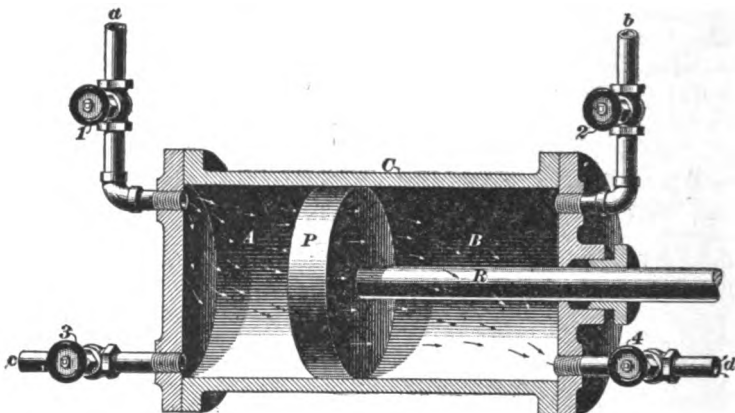

FIG. 3.
**51. Description.**—The working of a steam cylinder can best be explained by referring to Fig. 3, in which *C* is the cylinder, shown in section; *P*, the piston, which makes a steam-tight joint with the walls of the cylinder; *R*, the piston rod; *a* and *b*, two steam pipes, which connect the ends *A* and *B*
In (a) is shown a sectional view of a steam cylinder *C*, steam chest *X*, and slide valve *v*, together with the piston *P* and piston rod *R*. *S* is the steam-supply pipe, through which steam passes from the boiler to the steam chest. The slide valve *v* is in the steam chest, and serves the same purpose as the valves 1, 2, 3, and 4 of Fig. 3; that is, it controls the passages *a*, *b*, and *d*. This valve may be considered as a cast-iron box with its cover removed, turned "upside down" in the steam chest so that the cavity *c* in the valve is towards the valve seat *ss*.
The ports *a* and *b* in the valve seat lead from the steam chest to the respective ends of the steam cylinder, and are called the **steam ports**, while port *d*, between ports *a* and *b*, leads to the atmosphere and is called the **exhaust port**. These ports serve the same purpose as the steam pipes *a* and *b*, and the exhaust pipes *c* and *d*, of Fig. 3.